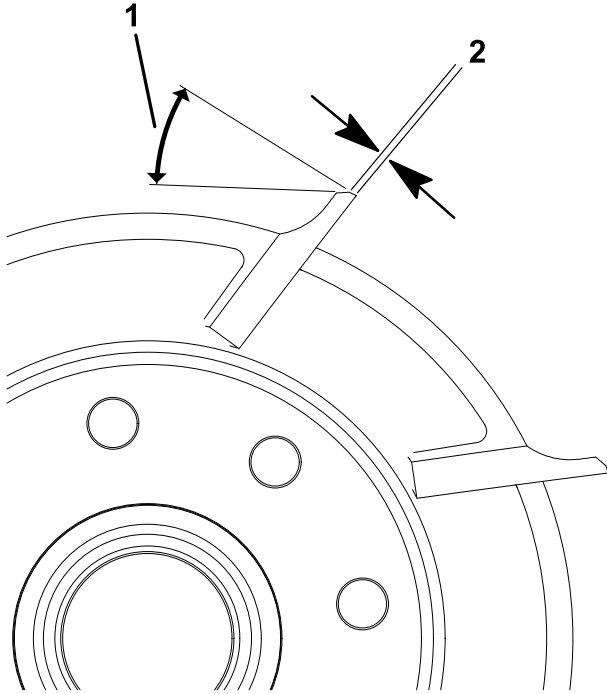

Figure 19
1. Apply a 30° relief grind on all reel blades until the land width is .76 mm (0.030 inch) wide (Figure 19).